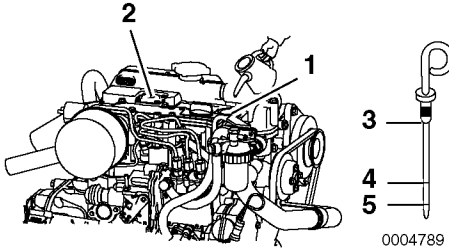

Figure 6
2. Remove the dipstick (Figure 6, (3)) and wipe with a clean cloth.
4. Remove the dipstick. The oil level should be between upper (Figure 6, (4)) and lower (Figure 6, (5)) lines on the dipstick.
1. Remove the yellow oil filler port cap from the filler port (Figure 6, (1)) on the rocker arm cover (Figure 6, (1)) and fill with engine oil.
2. Fill with engine oil to the upper limit (Figure 6, (4)) on the dipstick (Figure 6, (3)).